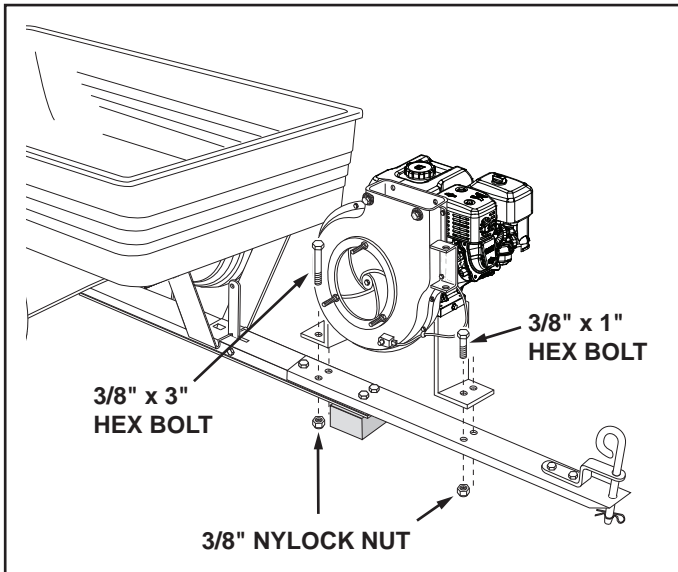

FIGURE 7
- Attach the engine mounting plate to the tongues using two 3/8" x 3" hex bolts in the back holes, two 3/8" x 1" hex bolts in the front holes and four 3/8" nylock nuts. See figure 7.